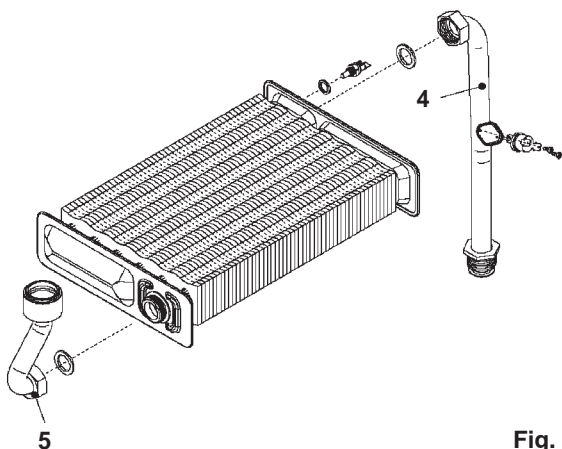

Fig. 31
Refer to fig. 31
- 8.9.5 Disconnect the flow and return connections (4,5, fig. 31) on the heat exchanger.